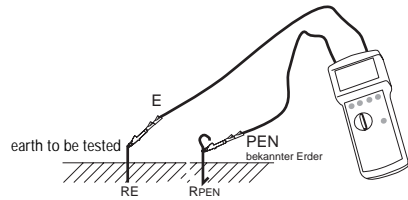

Figure 3: two-wire method
- ▶ Connect earth to be tested with socket (E) and known earth with socket (H), also refer to fig. 3
- ▶ Turn the rotary switch (13) to the "2 pole" position.
- ▶ Set contact voltage (11) by using key "UL".
- ▶ If required choose manual frequency selection by using key "auto/man" (16), and select test frequency with key "f1/f2" (12).
- ▶ Press key "Start" (14).